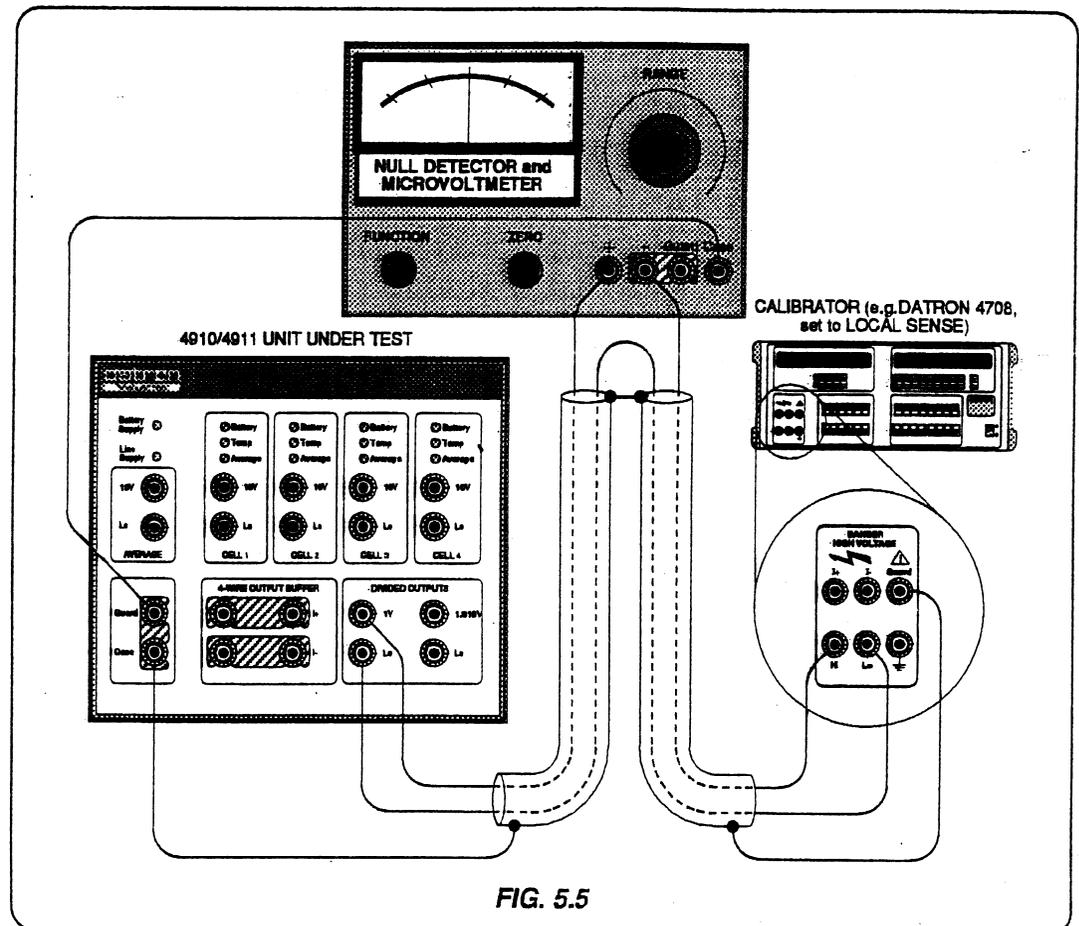

FIG. 5.5
13. Connect the null detector to the 4910 and the 4708 calibrator as shown in Fig 5.5.